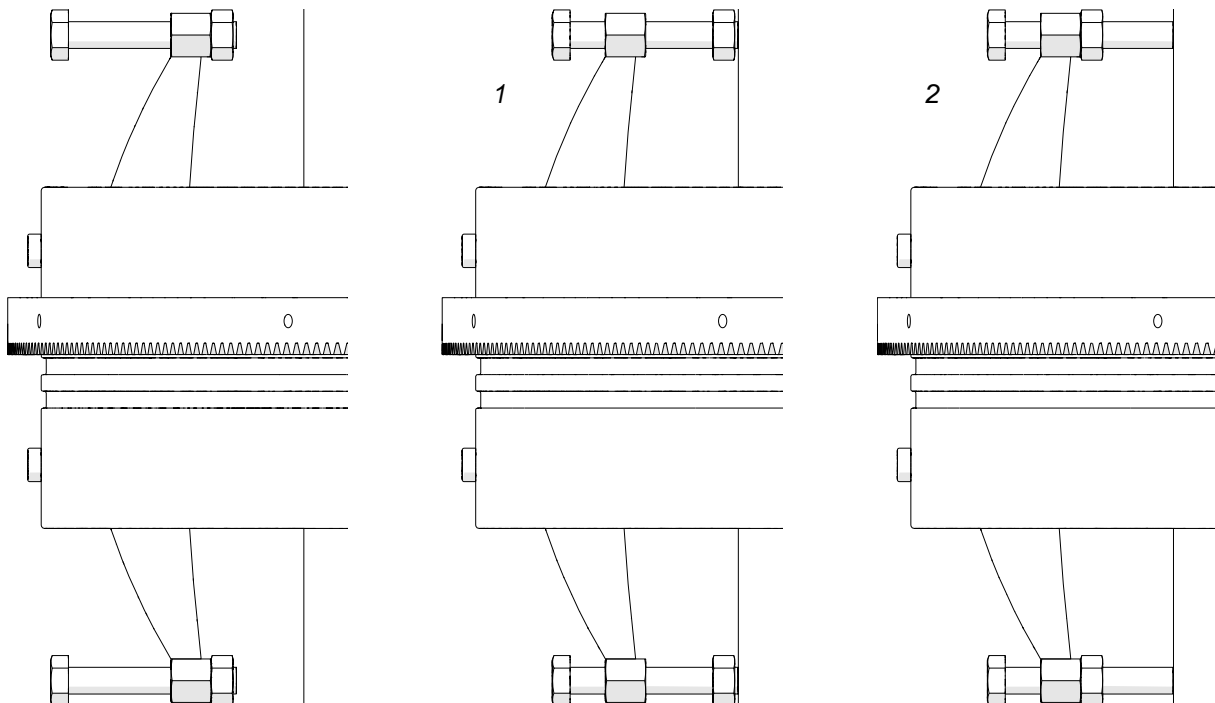

Fig. 5. Attaching the ring track to the workpiece
Use the 13 mm flat wrench to adjust the bolts (or the screws by hand) until they contact the workpiece (1, Fig. 5). Adjust each support equally to make the track concentric to the workpiece. Lock the supports with the nuts (2) or levers.